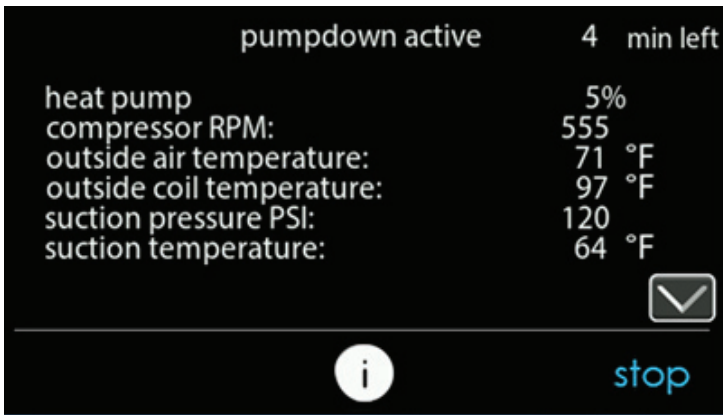

Fig. 22 – Pump Down Status Screen
4. Select Start on UI to begin the pumpdown process. Unit will begin running in selected mode after a brief delay and a status screen will be displayed. See Fig. 22.